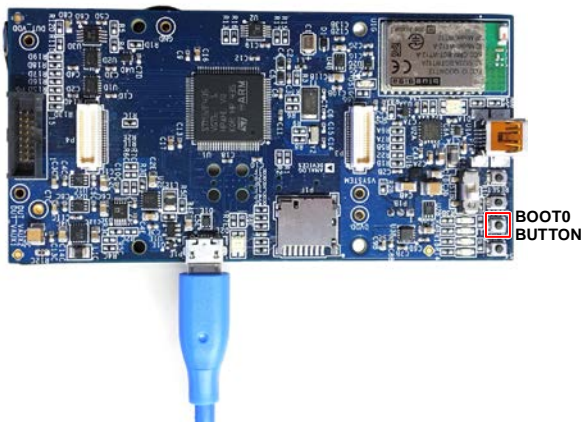

Figure 6. Micro USB Connection and BOOT0 Button Used When Upgrading Firmware
2. Plug in a micro USB cable between the EVAL-ADPDCUZ and the PC with the power to the EVAL-ADPDCUZ turned off (see Figure 6).